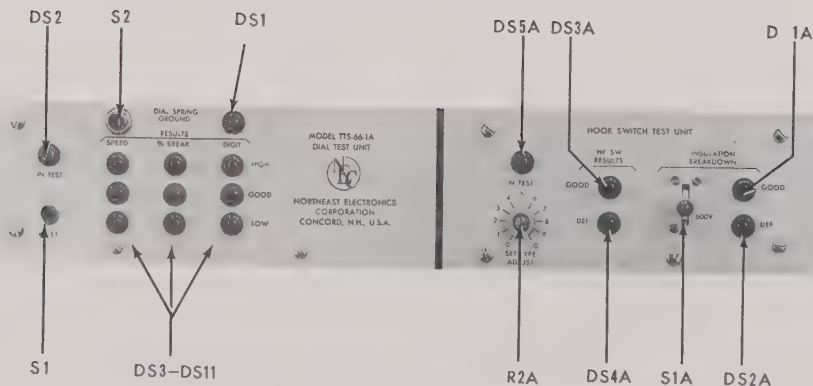

Fig. 2-1 Front Panel Controls
2.1 FRONT PANEL CONTROLS. (See figure 2-1).